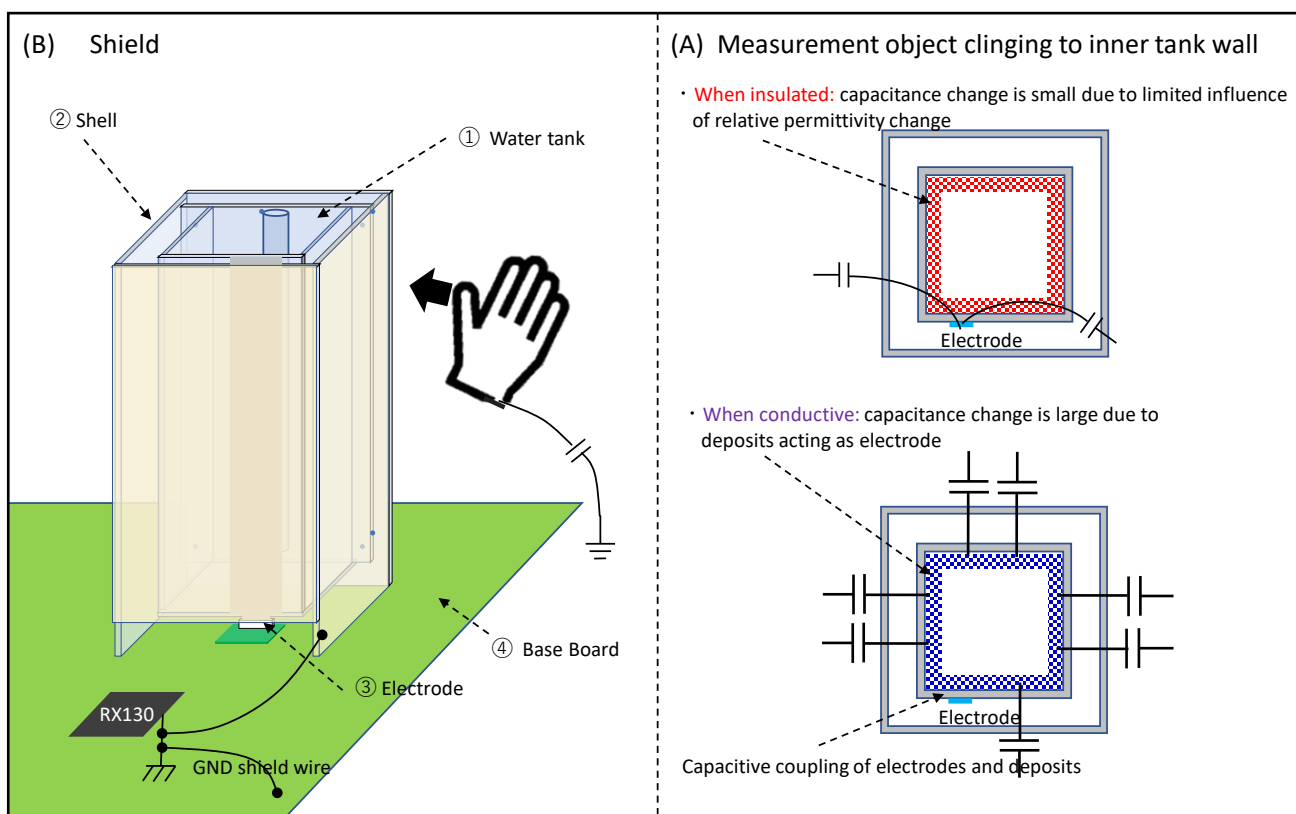

Figure 5-1 Shield and Water Level Measurement Cautions
In general, the capacitance of an electrode changes depending on the relative permittivity of the material surrounding the electrode if the electromagnetic field is constant. However, if the object to be measured is conductive, it also functions as an electrode, and behaves differently from the insulating material (see Figure 5-1 (A)). This characteristic must be considered in the development process. Specifically, deposits such as water film or bubbles clinging to the inner wall of the water tank at a point higher than the actual level of the water may be incorrectly measured as the water level. Since normal water contains impurities, we have treated it as a conductor in this app note.
To obtain correct measurements with the capacitive touch sensor, it is necessary to cut off influence to the electrodes other than that of the object being measured. The electrodes must be blocked off from any conductive influence other than that of the object to be measured. This demo set is equipped with two components for confirming the shield effect: a conductive sheet for the right-side tank shell and a conductive mat for the base board. These two components can be connected to the MCUs GND to confirm the shield effect (see Figure 5-1 (B)).